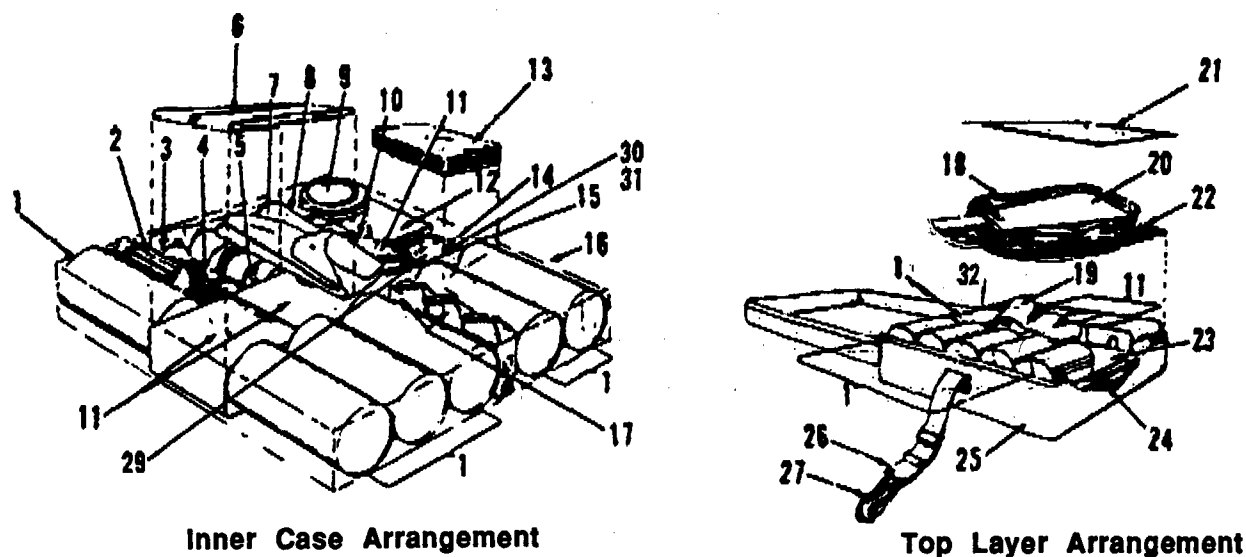
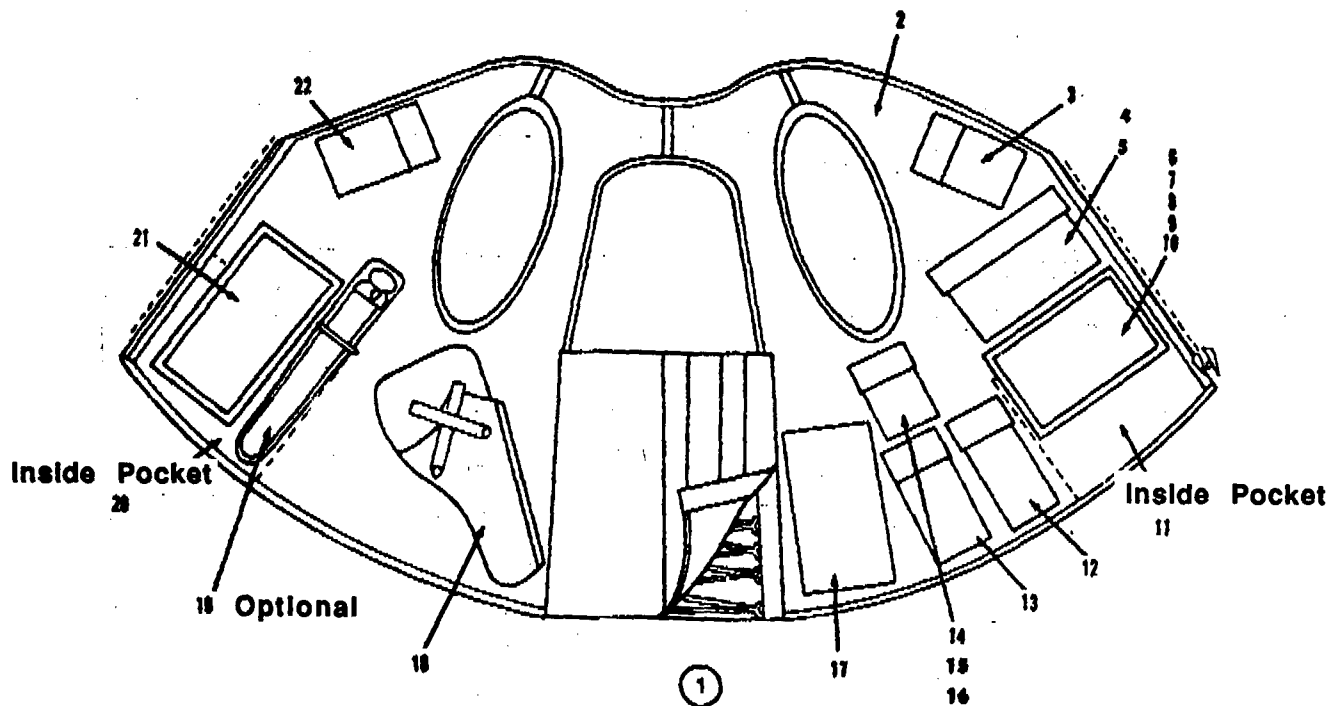

Figure 3-13. Individual Hot Climate Survival Kit.
Figure 3-14. Individual Survival Kit Vest-Type SRU-21/P.
Two (2) survival kits are available to aircraft crewmembers for use when flying. The first is the Individual Hot Climate Survival Kit, which remains onboard each aircraft, one (1) each per crewmember. Figure 3-13 illustrates the components of the kit. The second kit is the Individual Survival Kit Vest-Type SRU-21/P (Figure 3-14). It is issued to individual crewmembers.